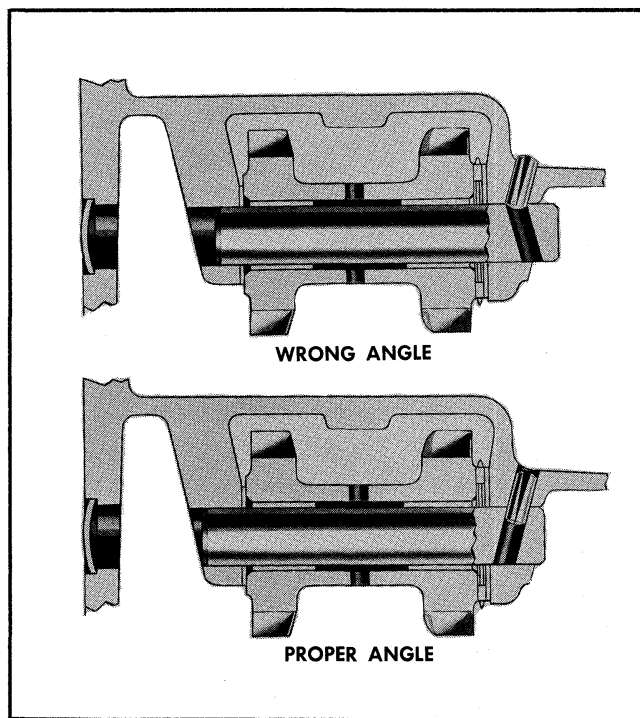

Fig. 7-30 Reverse Idler Gear Shaft and Lock Pin
3. From rear of case, install idler shaft, aligning lock pin hole in shaft with hole in case (Fig. 7-30), and tap shaft in until front of shaft is flush with inner side of rear boss.